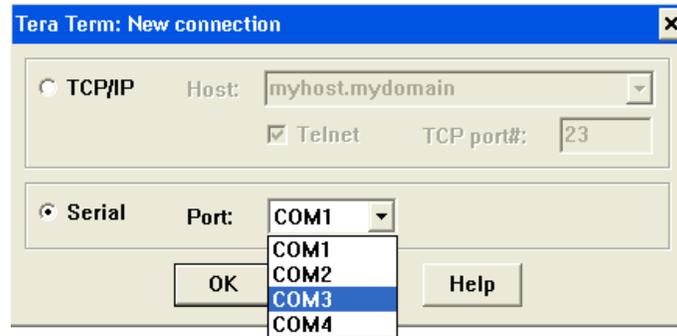

Figure 9: Tera Term Port Selection
3. Select a COM port from the drop-down list and click OK. For example, COM3 (Figure 9).